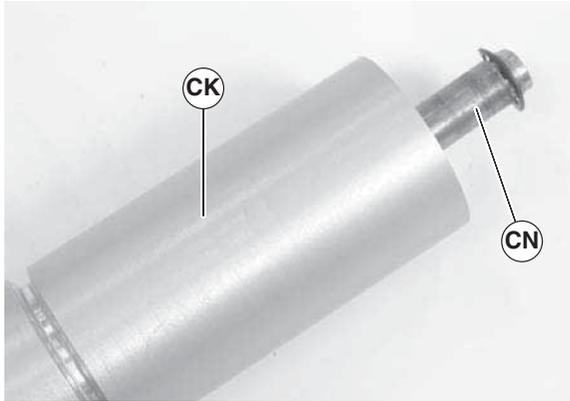

Figure 93
7. Slide the shaft assembly (Figure 93, item CN) out of the pulley (CK).